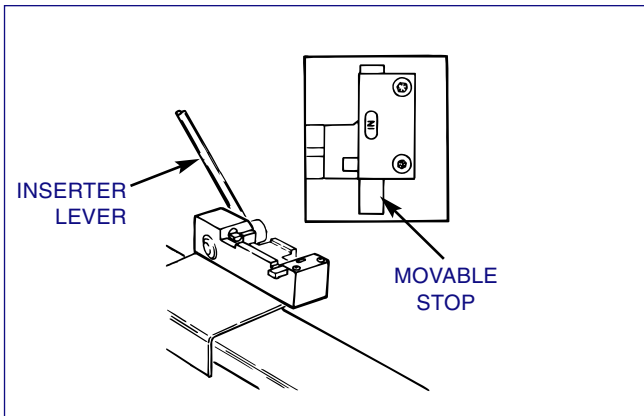

FIGURE 3-10, Open Position
3. Move Lever to open position and slide Movable Stop to IN position (*see Figure 3-10*).